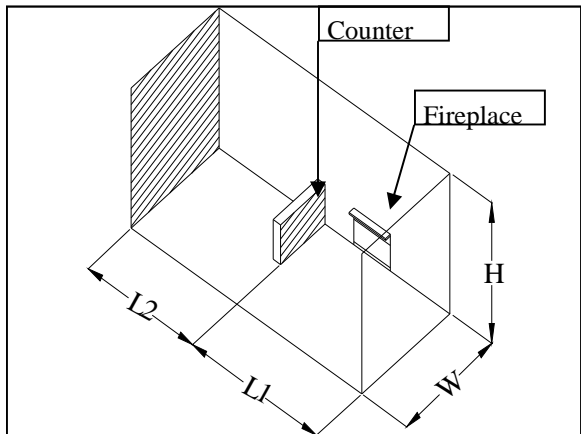

Figure 1. Example of large room with 1/2 wall divider.
Example: Refer to Figure 1. Two (2) connecting rooms with an open area between, with the following dimensions.